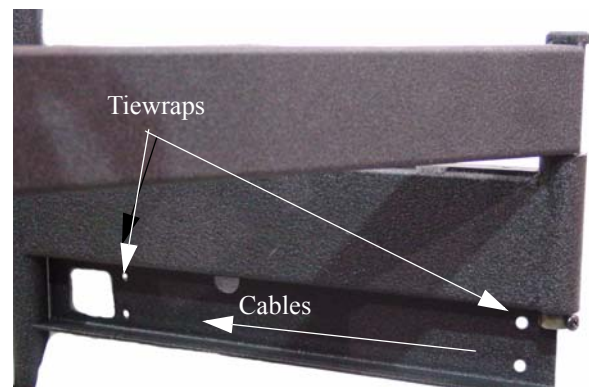

Figure 4. Cord Management
1. Route power/audio/video cables through the access hole (see Figure 4), allowing sufficient slack in cables for extension and avoiding pinch points.